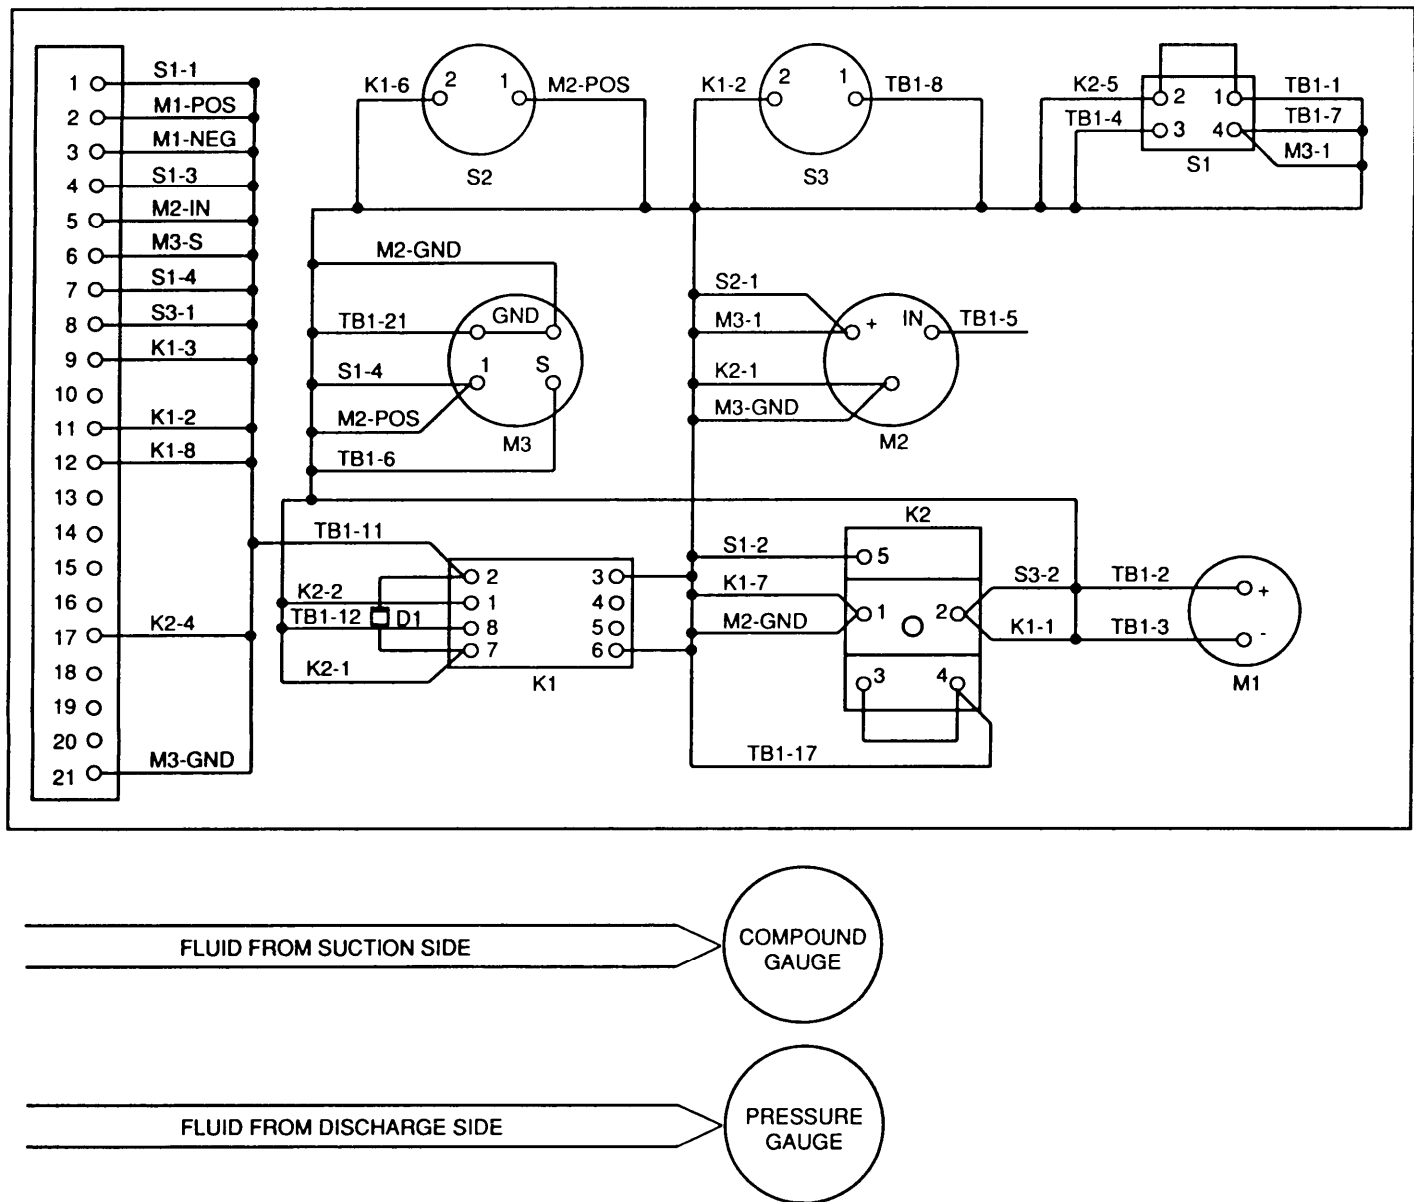

Figure 1-9. Control Panel Assembly Functional Diagram.
1.14.2.6 Control Panel Assembly. The control panel assembly provides the control and indicators required for operation. Figure 1-9 provides a functional block diagram of the control panel. The control panel receives and sends electrical signals to and from the engine. In addition, the control panel monitors the suction and discharge pressures of the pump assembly.